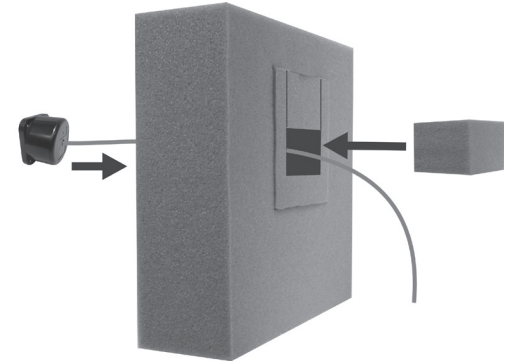

Figure 2.
- Remove the small portion of the provided foam microphone enclosure, resulting in the two pieces of foam shown in Figure 2.
- Insert the DM5 Microphone cable through the hole in the foam enclosure, and place the microphone into the hole as shown in Figure 2.
- Insert the removed piece of foam back into the hole in the foam enclosure, as shown in Figure 2, to fit snugly against the back of the microphone.